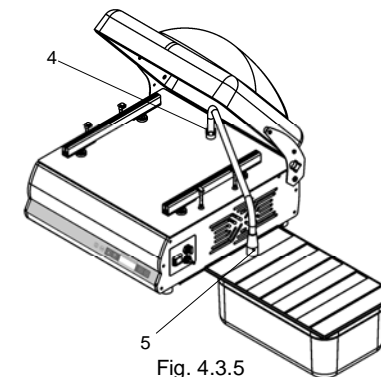

Fig. 4.3.5
- Attach the suction kit pipe (ref. 4 fig. 4.3.5)
- Attach the suction kit dome nut to the tray lid valve (ref. 5 fig. 4.3.5)